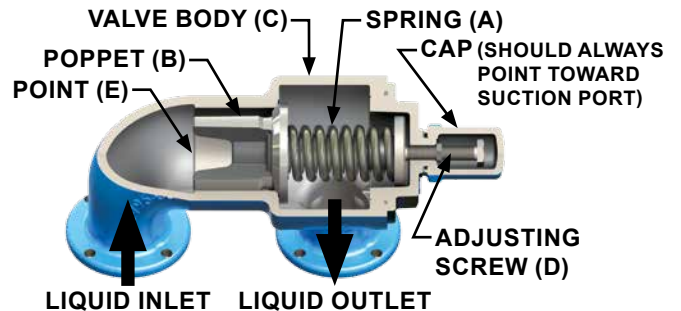

FIGURE 4
The pressure relief valve mounted on most Viking pumps and most in-line valves are of the spring loaded poppet design. **See Figure 4**. The spring (A) holds poppet (B) against the seat in the valve body (C) with a given force determined by the spring size and by how tightly it is compressed by the adjusting screw (D). The pump discharge pressure pushes against the underside of the poppet at point (E). When the force exerted by the liquid under the poppet exceeds that exerted by the spring, the poppet lifts and liquid starts to flow through the valve. As the discharge pressure builds up, more and more of the liquid flows through until a pressure is reached at which all of the liquid being pumped is going through the valve. This pressure is the relief valve setting.